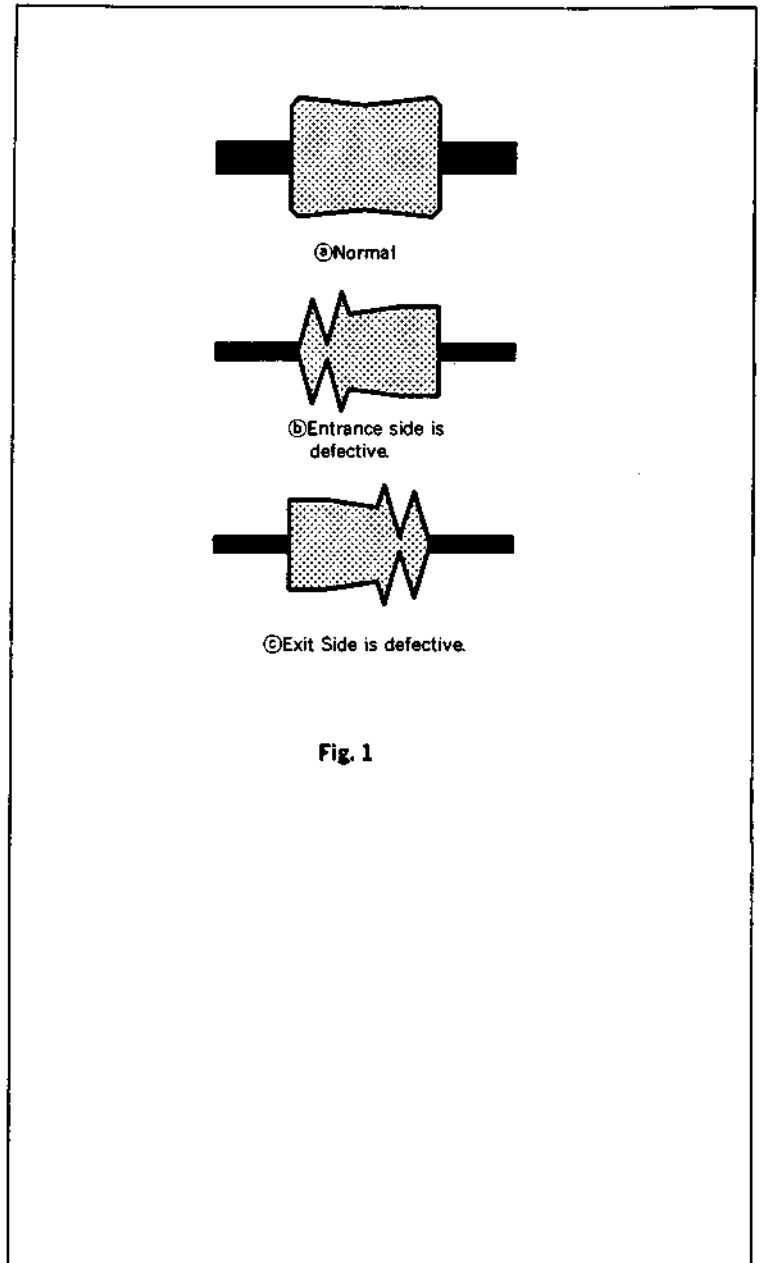

Fig. 1
Use the connection cords (Ref. No. J-15 and J-16) for connection. Connect the Track Shift Tool and the unit as shown in figure 1.
- (3) Set the SEL switch of the Track Shift Tool to OFF and play back the alignment tape for tracking (WR5-1CP). Check that the RF waveforms of both entrance and exit sides are flat. (fig. 1 (a)) If the RF waveforms of both sides are not flat, adjust them as follows.
- . In case of the RF waveform at the entrance side is not flat. (fig. 1 (b))
- . In case of the RF waveform at the exit side is not flat. (fig. 1 (c))
- (1) Remove the Fly Wheel referring to Section 7-2-1.
- (2) Loosen the No. 2 Guide Lock Screw and turn the No. 2 and No. 3 Guides counterclockwise to free the tape path at the entrance side. (fig. 1 and 2)